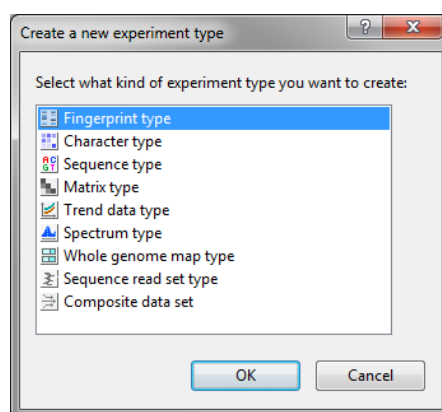

Figure 1: The *Create a new experiment type* dialog box.
2. In the *Main* window, click on  in the toolbar of the *Experiment types* panel and select **Fingerprint type** from the list (see Figure 1).